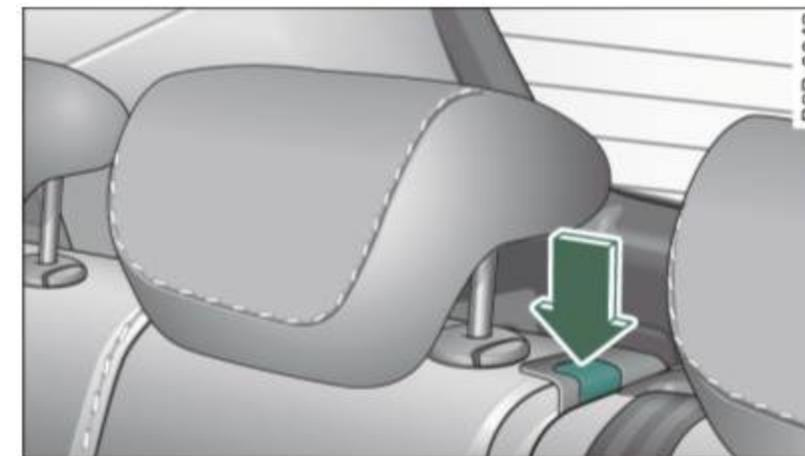

Fig. 78 Release button for the center backrest
- Press the release button ⇒ *page 77, fig. 78*. The red marking on the release button will be visible.